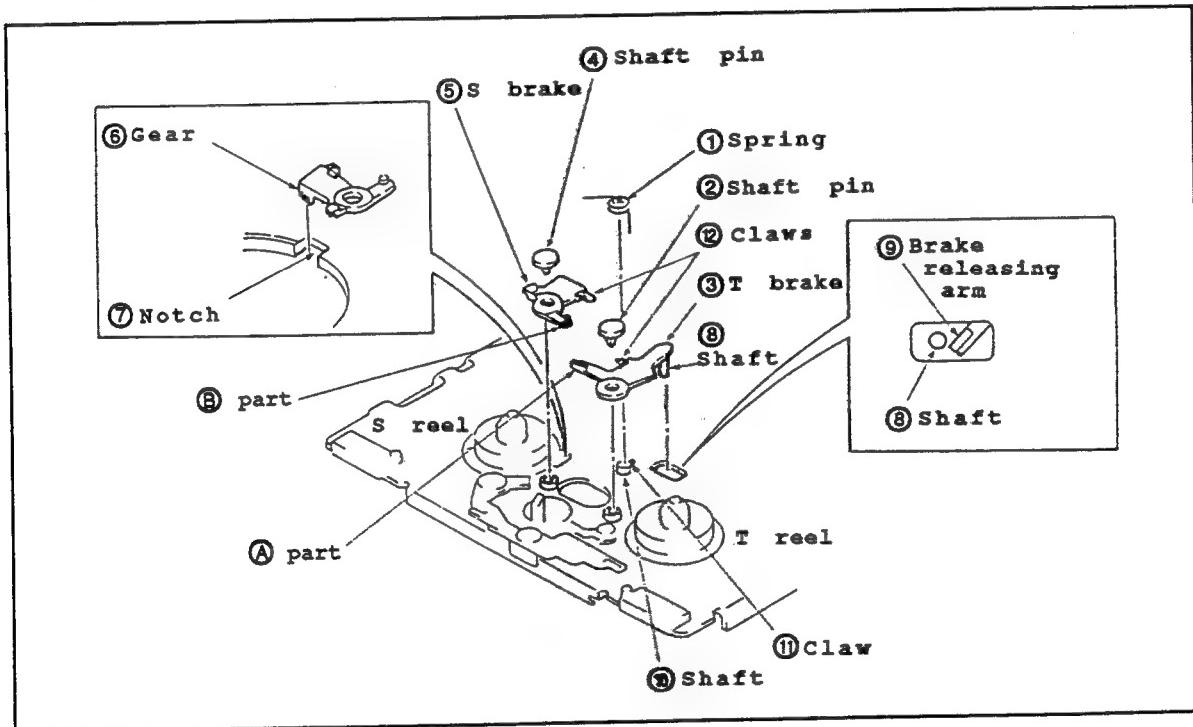

Fig.II-10
• Disassembling (Fig.II-10)
- (1) Remove the spring ①.
- (2) To take out the T brake ③, remove the shaft pin ②.
- (3) To take out the S brake ⑤, remove the shaft pin ④.
*Note: If the claw part of shaft pin ② and ④ damaged, replace them.
• Reassembling (Fig.II-10)
- (1) Install the S brake ⑤ while inserting the gear ⑥ into the notch ⑦.
- (2) Attach the shaft pin ④.
- (3) To install T brake ③, put the shaft ⑧ of T brake ③ into the S reel side comparing the brake releasing arm ⑨. At this time, part ⑩ must be at the drum side comparing part ⑪.
- (4) Attach the shaft pin ②.
- (5) Insert the spring ① under the claw ⑫ of shaft ⑩.